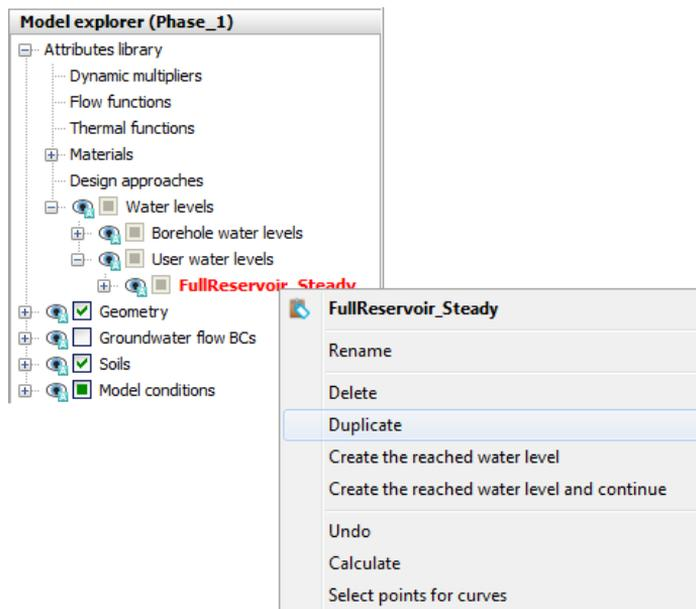

Figure 8.7 Copying water levels in *Model explorer*
- Due to the global nature of the water levels, if an attribute is assigned to a water level in the model it will affect it in all phases. The water level in this phase has the same geometry with the one previously defined, however it is time dependent and a function needs to be assigned to it. As a result, it is required to create a new water level with the same geometry and different attributes. In *Model explorer* right-click on *FullReservoir_Steady* and select the *Duplicate* option in the appearing menu (Figure 8.7). A copy of the water level is created.